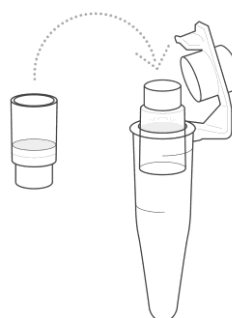

Figure 3
11. Discard the 1.5 ml Tube and place a new 1.5 ml Tube (provided) over the top of the DNApure Column. Turn the assembled device upside down (Figure 3) and place in centrifuge, aligning open cap towards the centre of the rotor, counterbalance with a similar device and centrifuge for 3 minutes at $1000 \times g$.